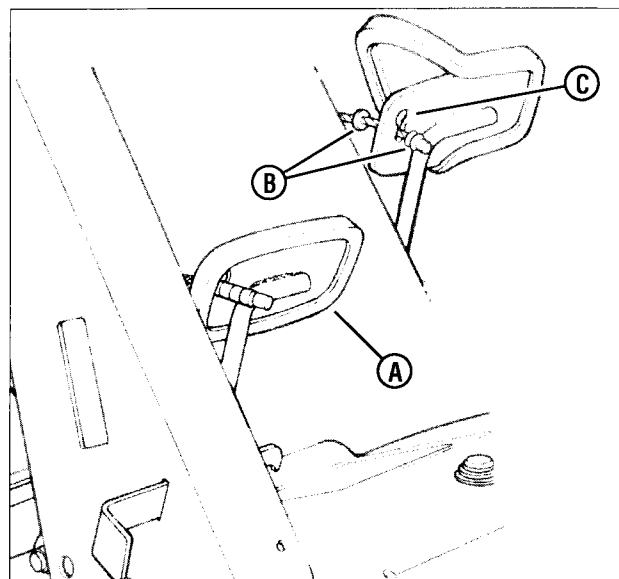

Figure 38: Clutch/brake cable adjustment
5. When belt adjustment is complete, it will be necessary to check Clutch/Brake Cable slack. Disengage the parking brake and allow the pedal (**A, Figure 38**) to remain in the engaged wheel drive (Up) position. The clutch/brake cable should have approximately 3/16" of slack. If the cable does not have slack adjustment of cable must be performed: